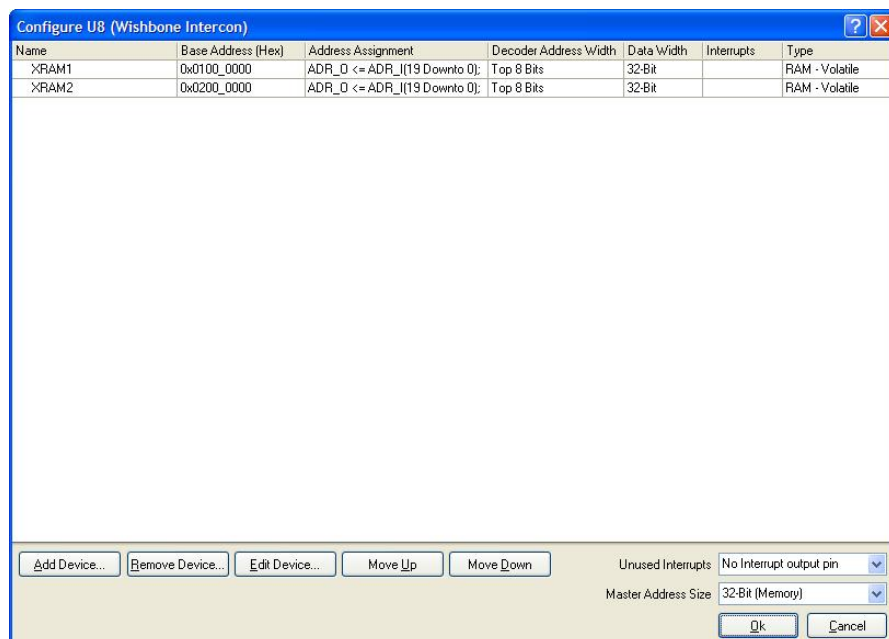

Figure 19. Configuring the wishbone interconnect to support multiple memory slaves
3. In the configuration dialog, configure this component as it appears in Figure 19.